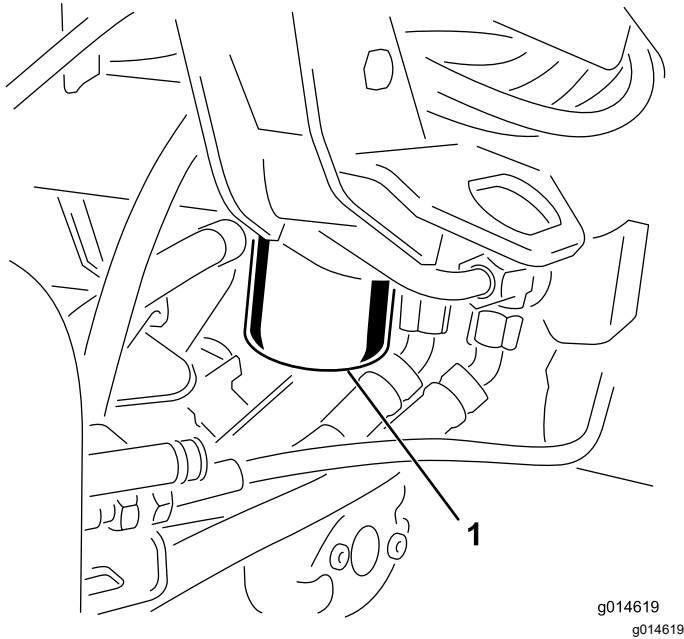

Figure 39
3. At the right side of the machine, align a drain pan under the hydraulic filter (Figure 39).
5. Remove the old hydraulic filter from the filter head and quickly install the new hydraulic filter (Figure 39) by turning it on by hand until the gasket contacts the filter head, then tighten the filter 3/4 turn further.